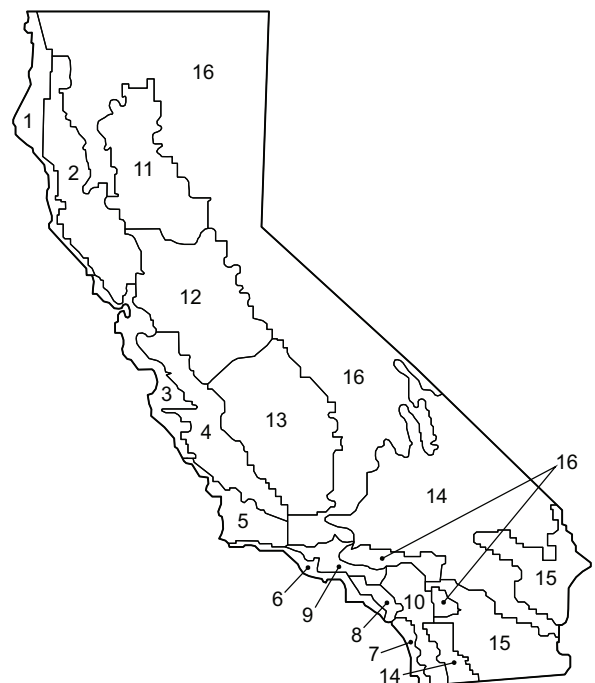

Fig. 91 — California Title 24 Zones
b. Refer to Fig. 91 for map of California Title 24 zones.